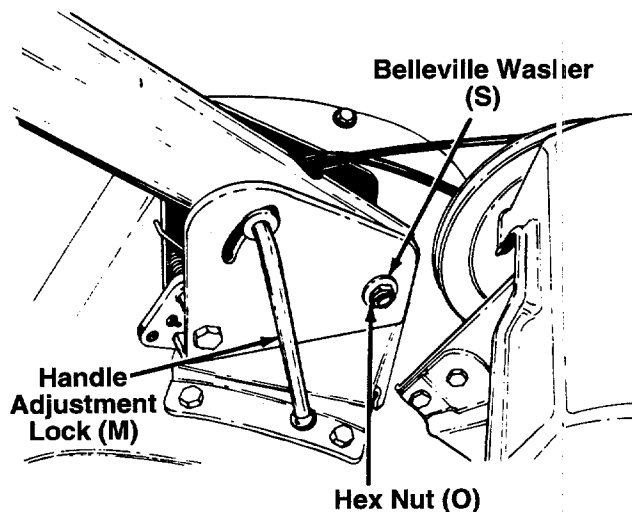

FIGURE 5.
13. Secure bottom of handle by placing belleville washer (S) (cupped side against the pivot bracket) and hex nut (O) on hex bolt (N). Do not tighten at this time. See figure 5. ←
14. Insert handle adjustment lock (M) through handle pivot bracket and handle assembly. See figure 5. Thread end of handle adjustment crank into shoulder nut.